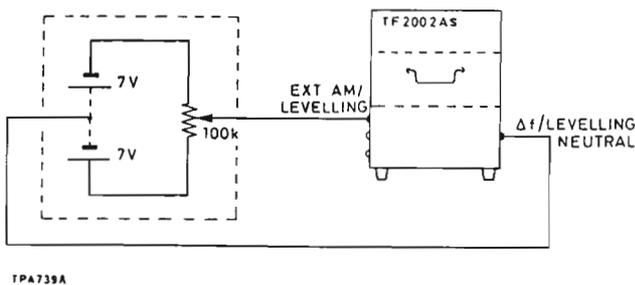

Fig. 2.6 External balanced drive source
- 3) By applying a two-terminal floating, direct or alternating potential between EXT A. M. LEVELLING terminal and the Δf /LEVELLING NEUTRAL terminal at the rear of the instrument. Fig. 2.6 shows a balanced direct source but an